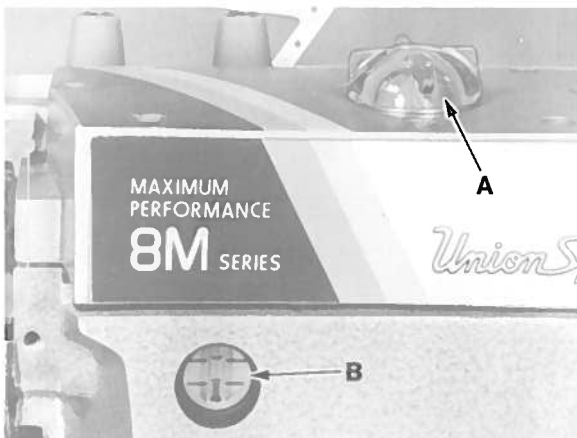

Fig. 1
Use a straight mineral oil with a Saybolt viscosity of 90 to 125 seconds at 100 degrees F. This is equivalent to UNION SPECIAL Specification No. 175. Remove oil filler cap (A, Fig. 1), add oil until indicator is level with top line of sight gauge (B). Replace oil filler cap and run machine 30 - 40 seconds at half speed to fill the system. Check sight gauge and add oil as required until the indicator registers halfway between the two lines of sight gauge (B). Approximately 14 to 16 ounces (354.9 to 414.0ml) is required to fill the system.